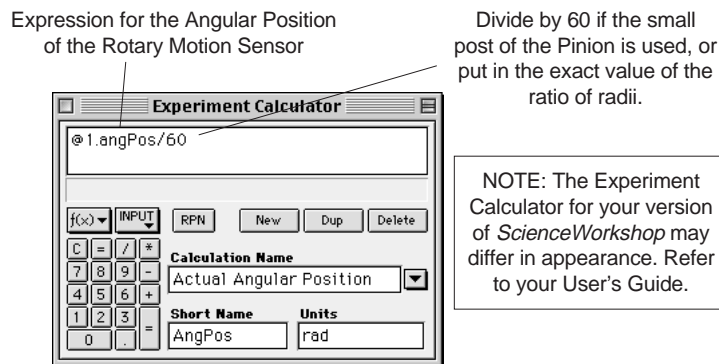

Figure 1.3: Create a Calculation
- In the *ScienceWorkshop* program, use the Calculator to create a calculation of Actual Angular Position based on the Angular Position measurement made by the Rotary Motion Sensor and the ratio of the radius of the Spectrophotometer's Degree Plate to the radius of the small post on the Pinion (Fig. 1.3). (Refer to the Set Up section for more information.)